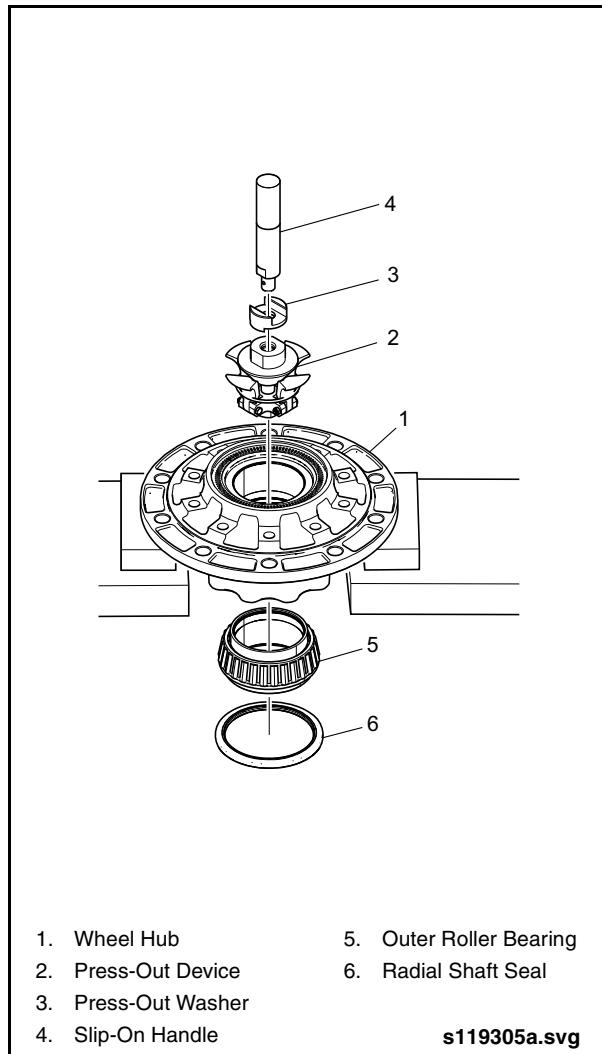

Fig. 2-19: Removing Outer Tapered Roller Bearing
2. Insert the Slip-On Handle (Item 14 from special tools list) with Press-Out Adapter (Item 16 from special tools list) into the press-out device. See “Fig. 2-19: Removing Outer Tapered Roller Bearing” on page 22.